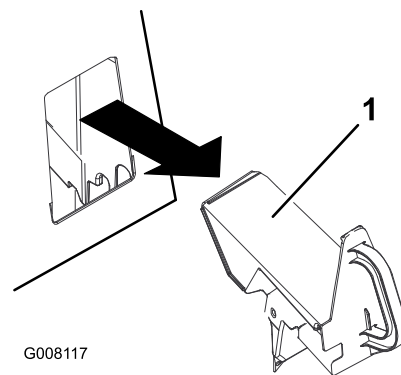

Figure 19
3. Remove the recycler plug (Figure 19).